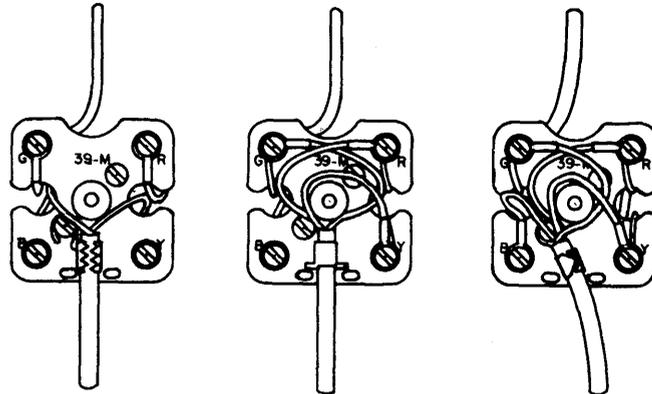

Figure 25. Strain Relief Retention on Murdock Number 39-M Connecting Block.
7.02 The number 42A connecting blocks are suitable for line cords equipped with either wing-band or S-hook strain relief, but not for the ring-band type line cords. The similar Murdock number 39-M block, because of the greater clearance it affords in the area adjacent to the cord entry point and lower mounting hole, is better suited to S-hook retention and can also accommodate ring-band-equipped cords. In such cases, the lower mounting screw is used to retain the strain relief (Figure 25). The mounting holes of the number 42A block will accommodate a number 8 screw, but those on most number 39-M blocks are large enough only for a number 6 screw.